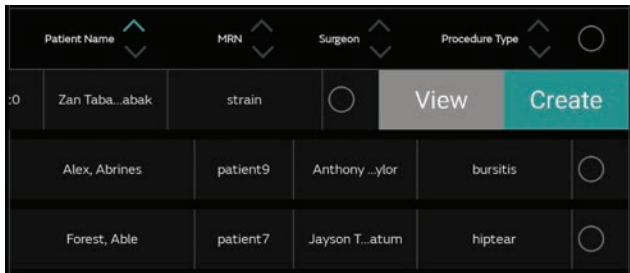

Figure 36. Create patient file(s)
1. Swipe left on a patient and select Create to create an individual patient file (Figure 36).